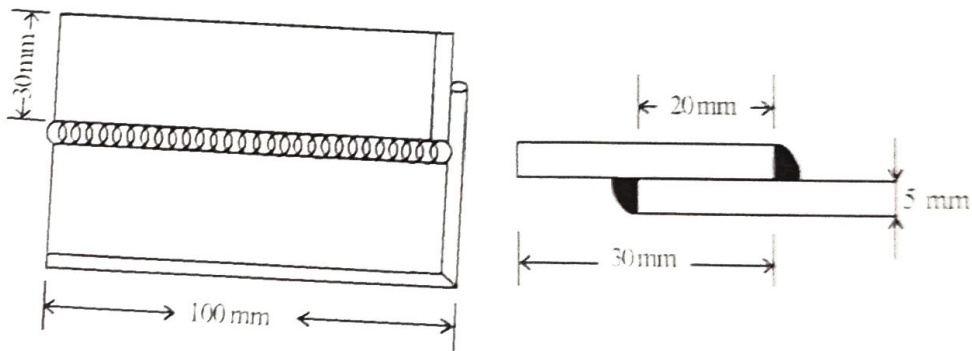

Fig. 2
2. Prepare the welding job using arc welding as per the drawing shown in Fig.2.